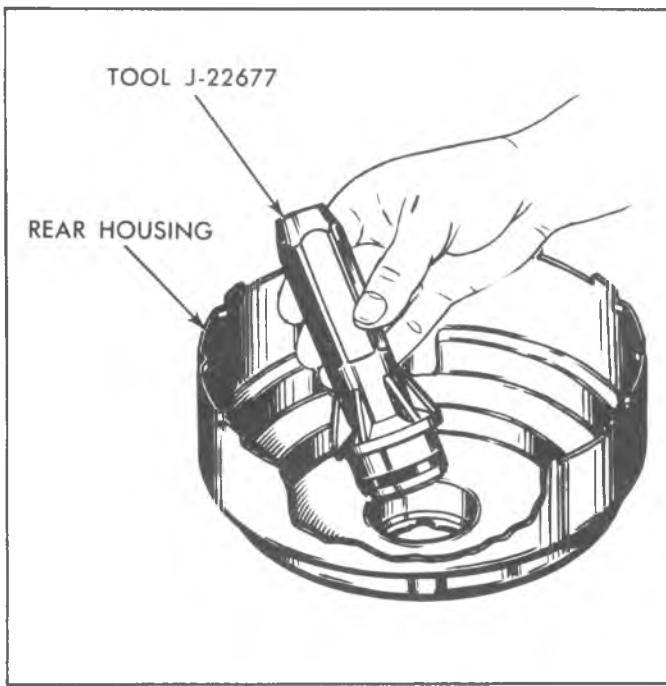

Fig. 7D--Installing Rear Housing Seal with Installer
1. If the rear housing seal was removed, press the new seal into this cavity in the rear housing using Tool J-22677 (fig. 7D). The flat rubber surface of the seal should be 5/16" below the flat, inside surface of the rear housing.